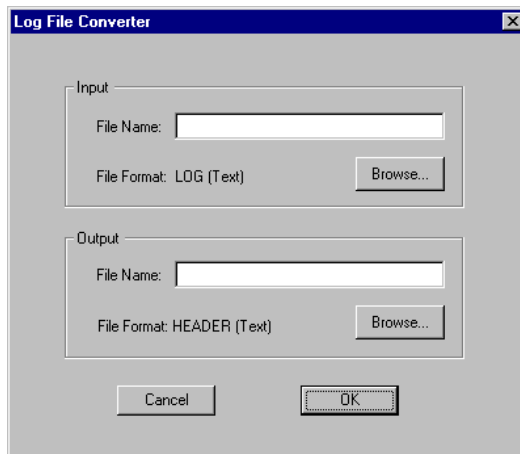

Figure 2.16. Log File Converter Dialog Box
2. Click the Log File... button on the MConvert main window to open the Log File Converter dialog box (Figure 2.16).